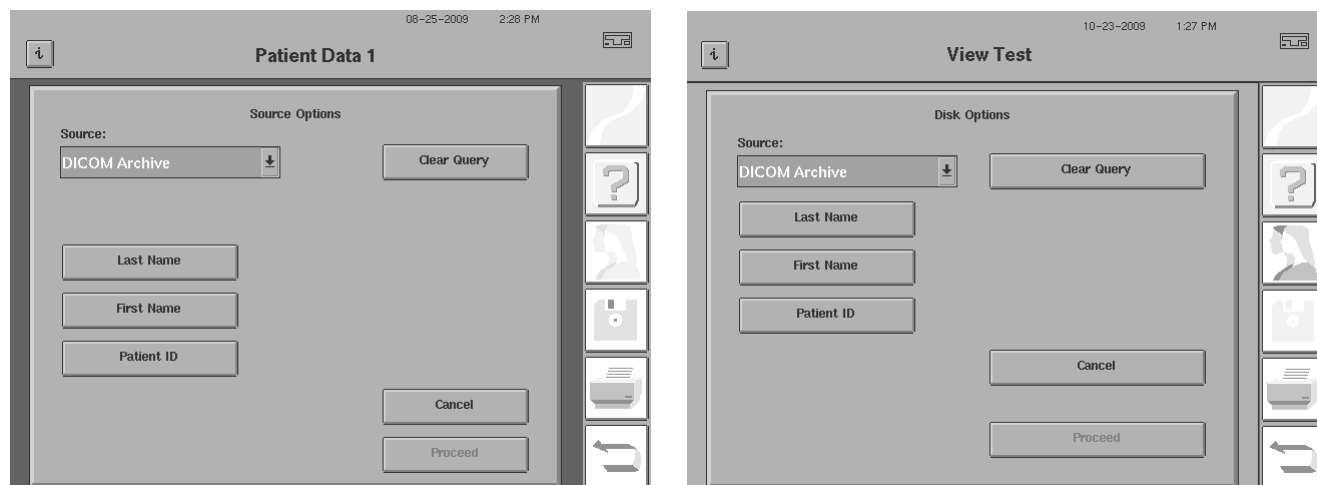

Figure 14.65 Select DICOM Archive from the Patient Data 1 and View Test Screen
- 2 On the Patient Data 1, Print Selection, or View Test screen, touch the drop-down arrow next to the Source drop-down box. Select your source of patient data as DICOM ARCHIVE as shown in Figure 14.65.